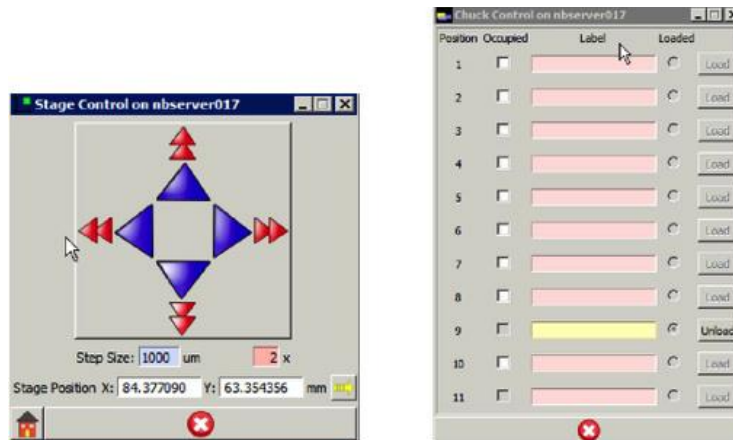

Figure 2. Stage Control Panel (Left) and Chuck Control Panel (Right)
1.2. **Unload** any possible loaded chuck(s), and make sure to return the stage to the load position by typing **stage load**. Check using the button in the main tool bar (Figure 1) – if the stage is not in load position you won't be able to vent the airlock and load your sample. Click on the **Chuck Control** button in the tool bar and check that no chuck is loaded – on each button on the right of the chucks should be visible Load, if not proceed by checking the box relative to the chuck to be unloaded and press Unload (Figure 2). Check that the temperature of the room is stable around 19 °C (**PA** button in the main tool bar, and click on the detail button).